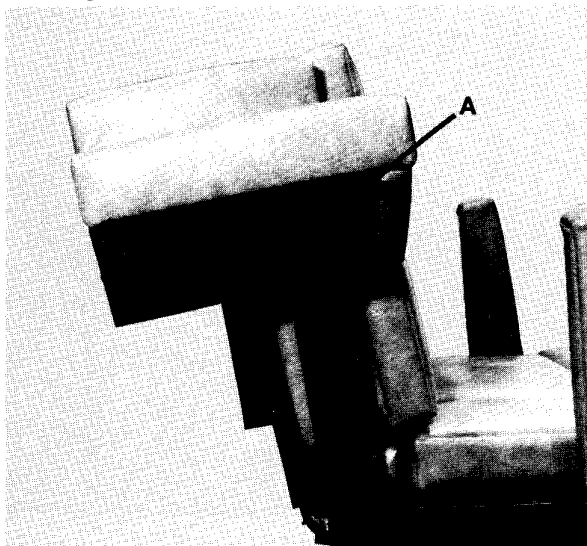

Fig. 18
- 1) Remove leg support shroud by removing (4) screws, Item A, Fig. 18, (2) screws located on each side of the shroud, and carefully lowering the shroud to rest on the leg support.
- 2) Replace leg support shroud by placing shroud in position, aligning holes, and installing (4) #10-24x $\frac{3}{8}$ " screws, Item A, Fig. 18.